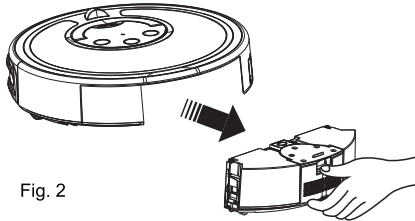

Fig. 2
- B. Remove the dust bin from cleaner. (See Fig. 2)